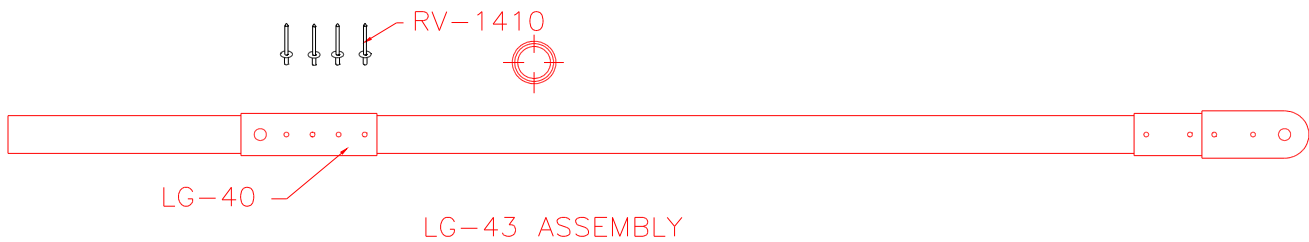

Figure 15.3.4
6) Pin the lower slide tube sleeve LG-40 onto the lower slide tube with an AN3 bolt. Drill and rivet with four rows of four 1/8" rivets (RV 1410). Figure 15.3.4.